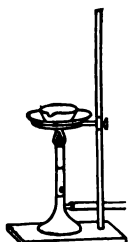

Fig. 27.
2. Warm this over a lamp (using plate and asbestos, Fig. 27) till fumes begin to appear, then remove the lamp.
2. Warm it over a flame, using plate and asbestos (Fig. 27), till vigorous action ensues, then take away the lamp and watch the action.